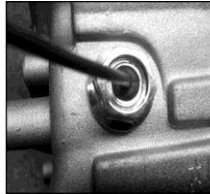

Fig. 9
- b. Tighten the M10 nut with a torque wrench and a hex bit socket. Set the torque to 8~12 N-m (Fig. 9).